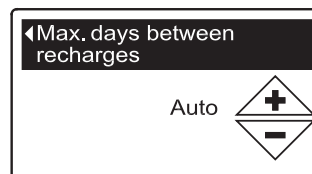

FIG. 76
- 8b. **Maximum days between recharges:** Press the UP (▲) or DOWN (▼) buttons to change the number of days (See Figure 76). The feature can be set from 1 to 15 days. Setting the number of days below 1 turns the feature off and defaults to automatic control of recharging.